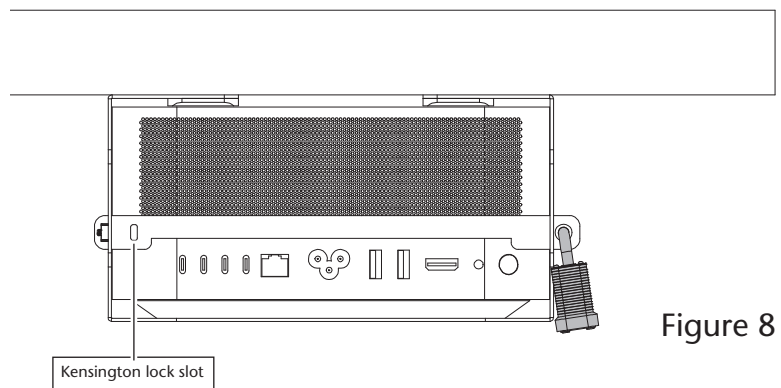

Figure 8
14. For additional security, install a padlock through the round hole on locking bar (**Figure 8**). Alternately, you may secure the locking bar with a Kensington lock installed in the Kensington slot on the front of the bar, or with both a padlock and Kensington lock.